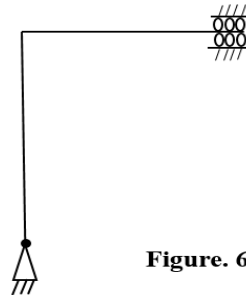

Figure. 6
- 3 a) Find the Kinematic indeterminacy and Static indeterminacy of the continuous beam (Figure.4) , pin jointed frame (Figure.5) and rigid frame (Figure.6)